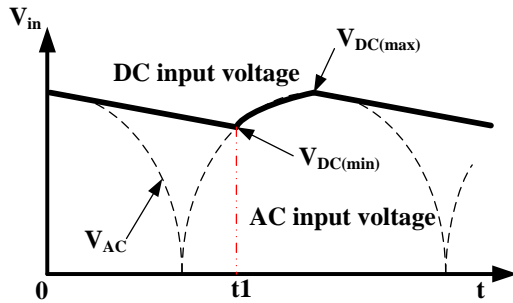

Figure 6: Input Voltage Waveform
The bulk capacitors of the rectifier bridge filter the rectified AC input, which supplies the DC input voltage for the converter. Figure 6 shows the typical DC bus voltage waveform of a full-bridge rectifier.
From the waveform in Figure 6, the AC input voltage ( $V_{AC}$ ) and the DC input voltage ( $V_{DC}$ ) are calculated using Equation (4):